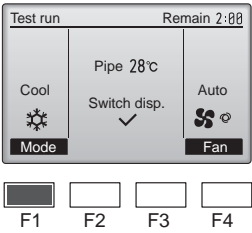

Fig. 7-5
- ① Press the **F1** button to go through the operation modes in the order of “Cool” and “Heat”. (Fig. 7-5)